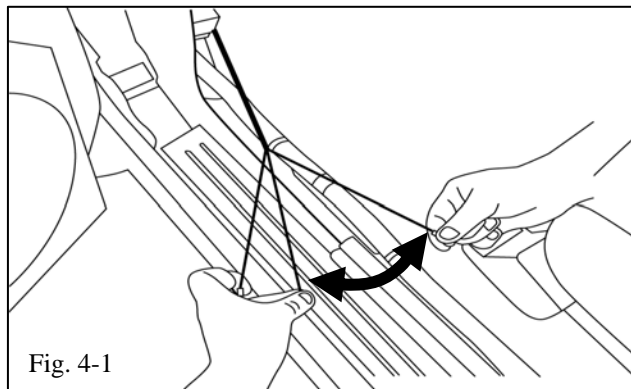

Fig. 4-1
- (a) Pull EC harness wires apart approximately 8 inches. (Fig. 4-1)